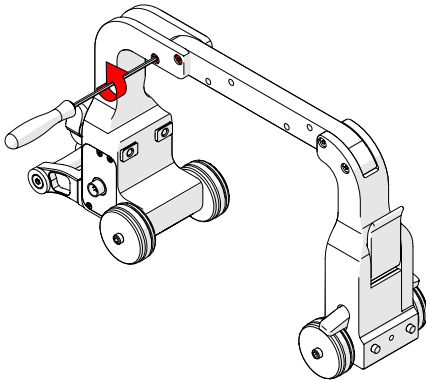

Fig. 24 - Remove shoulder screws
1. Use the supplied 2 mm hex driver to remove the two shoulder screws (Fig. 24).